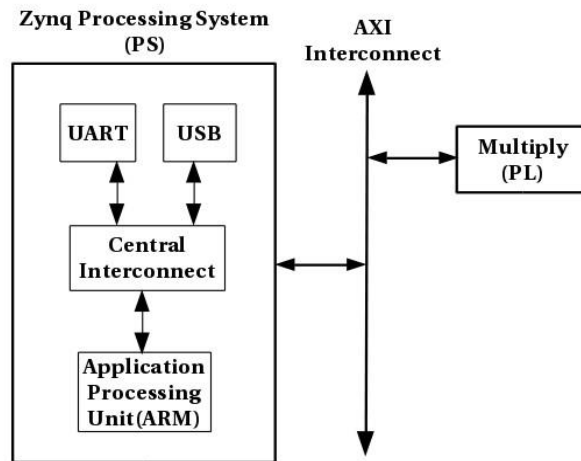

Figure 1: Zynq System Diagram
The microprocessor system you will build in this project is depicted in Figure 1. In the previous project a soft processor Microblaze was used, however in this project you will use the ARM Cortex A9 processor in
the Zynq Chip on ZYBO Z7-10 board. The Zynq chip is divided into Processing System(PS) and Programming Logic(PL). PS has a dual-core ARM Cortex-A9 processor and PL uses Xilinx 7 series FPGA logic cells. In place of the GPIO modules, utilized in the last project, is a multiplication block, which represents the integer multiplication peripheral you will create. The UART in Figure 1 will be used to connect the USB-UART port on the ZYBO board to the workstation computer via a cable which will display the output of the software executing on the PS. The software you will develop in this project will provide proof of operation for your multiplication peripheral.